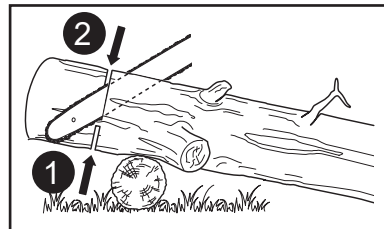

Fig. 12b
2. When the log is supported on one end (Fig. 12b), cut 1/3 the diameter from the underside (underbuck). Then make the finished cut by overbucking to meet the first cut.